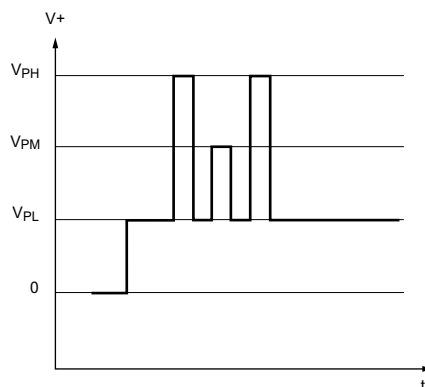

Figure 7. Addressing mode enable pulse sequence
**Enabling Addressing Mode.** The first segment of code is a keying sequence used to enable the bitfield addressing mode. As shown in figure 7, this segment consists of one short  $V_{PH}$  pulse, one  $V_{PM}$  pulse, and one short  $V_{PH}$  pulse, with no supply interruptions. This sequence is designed to prevent the device from being programmed accidentally, such as by noise on the supply line.